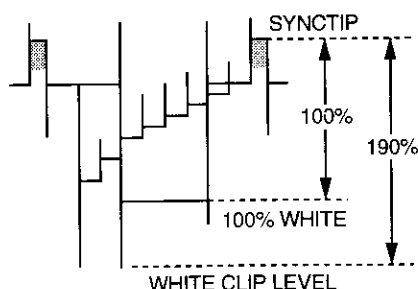

Figure 5-4.
1. Connect a oscilloscope to pin(48) of IC401 and GND.
3. Make sure that the overshoot of the video signal is clipped at 190% as shown in Figure 5-4.